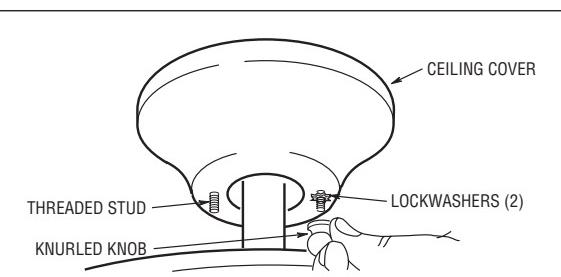

Figure 13
- Lift the ceiling cover up to the threaded studs and turn until studs protrude through the holes in the ceiling cover (Figure 13).
- Secure the ceiling cover in place by sliding lockwashers over the threaded studs and installing the two knurled knobs (supplied). (Figure 13). Tighten the knurled knobs securely until the ceiling cover fits snugly against the ceiling and the hole in the ceiling cover is clear of the downrod. Your fan is now wired to be turned on and off from the fan switch.